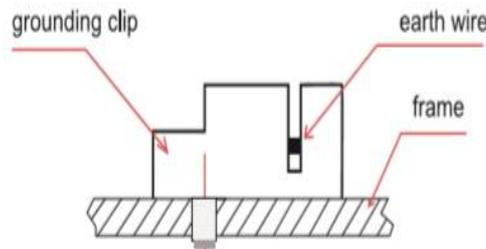

figure 2
- As shown in the *figure2*, the grounding clip assembly consists of a slider, base, and self-captivating thread-cutting screw or 8-32 screw and hex nut. The grounding clip accepts solid uninsulated copper wire sizes 10 or 12 AWG.
<p style="text-align: center;">Figure 1 O-A</p>	 <p style="text-align: center;">Figure 2 O-B</p>